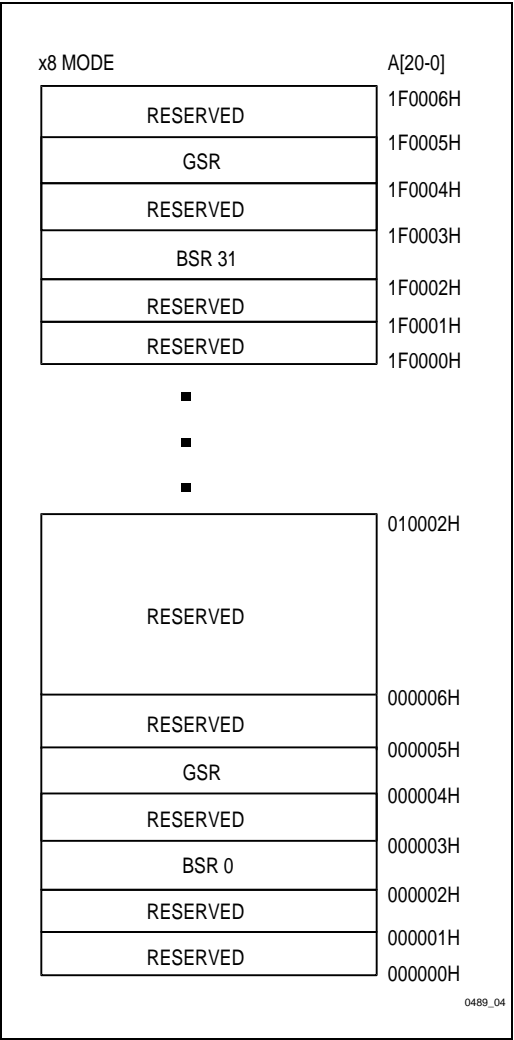

Figure 5. Extended Status Register Memory Map (Byte-Wide Mode)
The GSR and BSR memory maps for byte-wide and word-wide modes are shown in Figures 5 and 6.
1. RA can be the GSR address or any BSR address. See Figures 5 and 6 for Extended Status Register MemoryMaps.